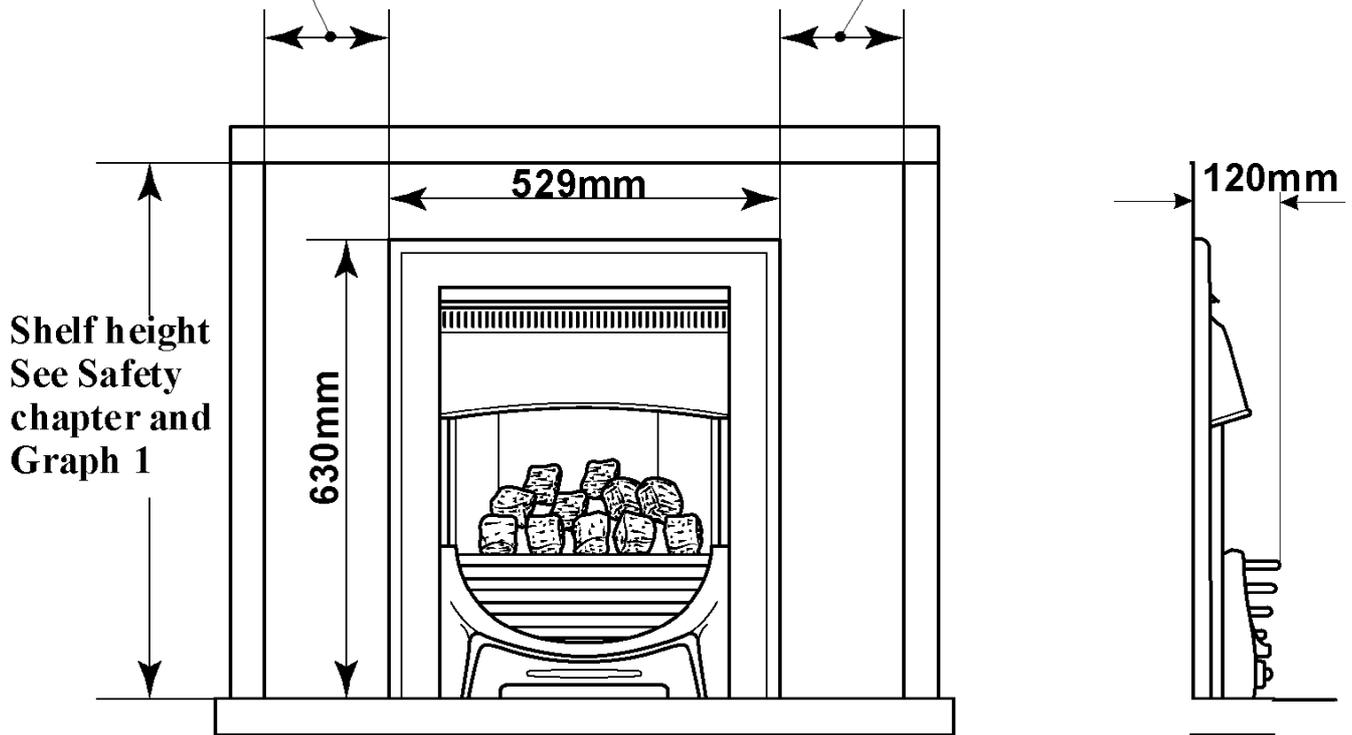

Figure 1 Dimensions & Clearances
**Do** provide a minimum side clearance as detailed in figure 1. Please bear this in mind if ever you are considering altering the room.